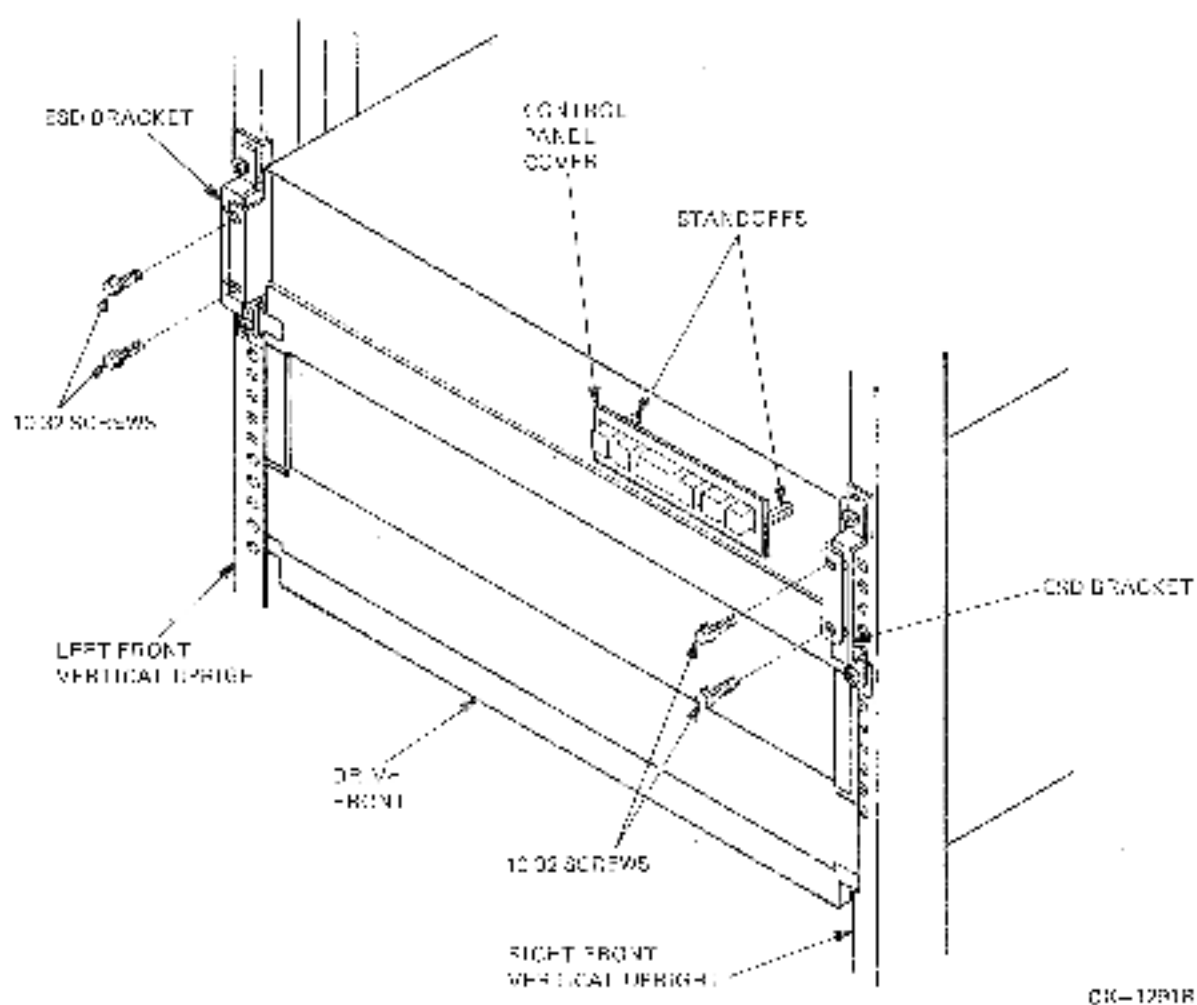

Figure 6-18 SA482 ESD Brackets
1. Remove the bottom left and the top right OCP mounting screws. Refer to Figure 6-18 for locations.
4. Attach the ESD brackets (Part Number 74-34389-01) behind the vertical flanges on the logic housing using 8-32 screws (Part Number 90-10174-01) (two brackets, one to each side, two screws per bracket). *Do not tighten these screws.* See Figure 6-18.
6. Release slide lock arm on both arms to push the drive the rest of the way into the cabinet. Refer to Figure 6-17. Attach the BSD brackets to the uprights using the 10-32 Tumb screws (Part Number 900970H-K0), one to each side. Tighten the BSD bracket screws left loose earlier. Refer to Figure 6-18.